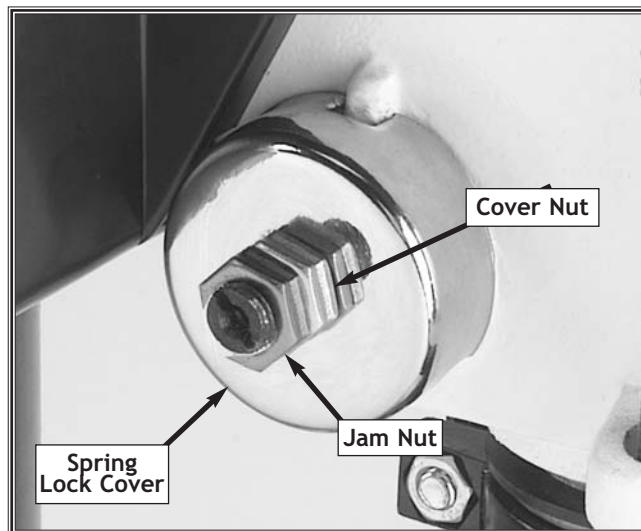

Figure 18. Feed shaft return spring assembly.
2. Wipe off any oil on the spring lock cover so it will not slip in your fingers when you hold the cover from spinning. See Figure 18.